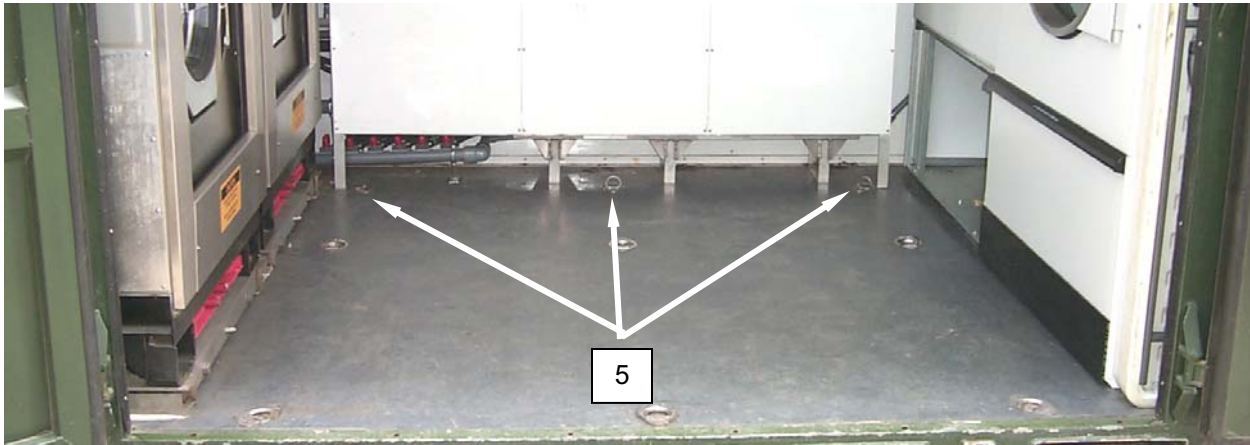

Figure 5. Three D-Rings.
9. Lift the three D-rings (**Figure 5, Item 5**) closest to the reuse filters.